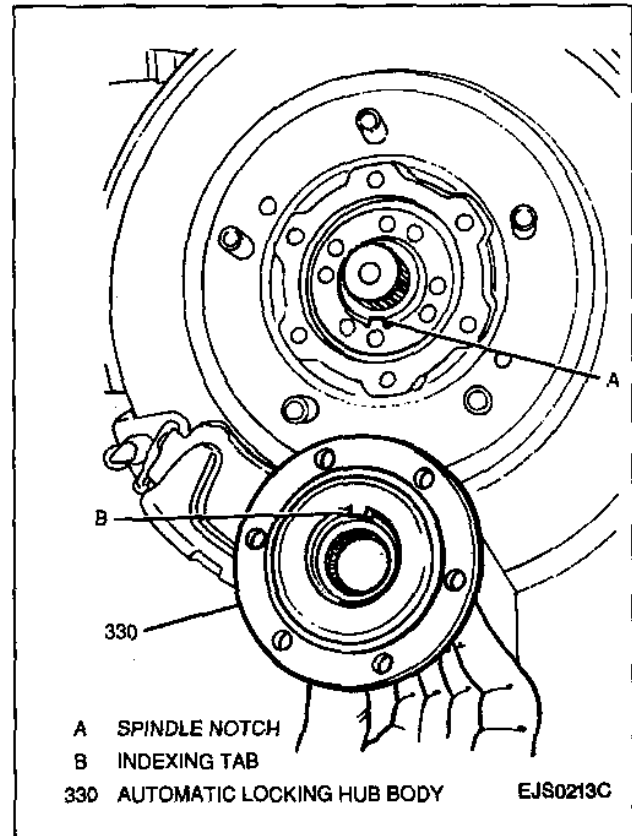

Figure 21—Aligning Automatic Locking Hub
2. Locking hub body to wheel hub flange, aligning indexing tab on locking hub with notched portion of spindle (Figure 21). Secure locking hub with six Allen-head bolts.